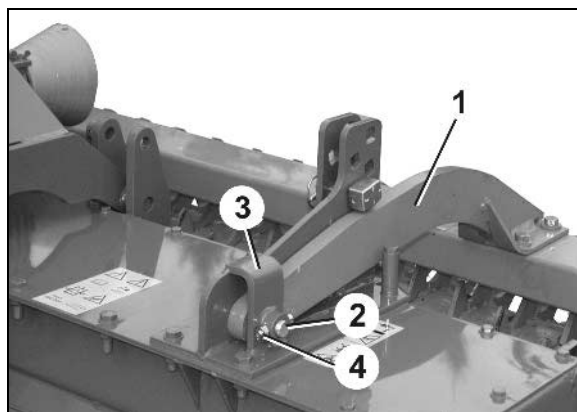

Fig. 38
Each roller has to be attached to the soil tillage implement with two carrying arms (Fig. 38/1).
3. Hitch the mounting arms (Fig. 38/1) of the roller to the supports (Fig. 38/2) of the soil tillage implement using pins (Fig. 38/3) and secure by using bolt and nut (Fig. 38/4)..
2. Slacken bolts and nuts (Fig. 38/4), pull the pins (Fig. 38/2) of the carrying arms.